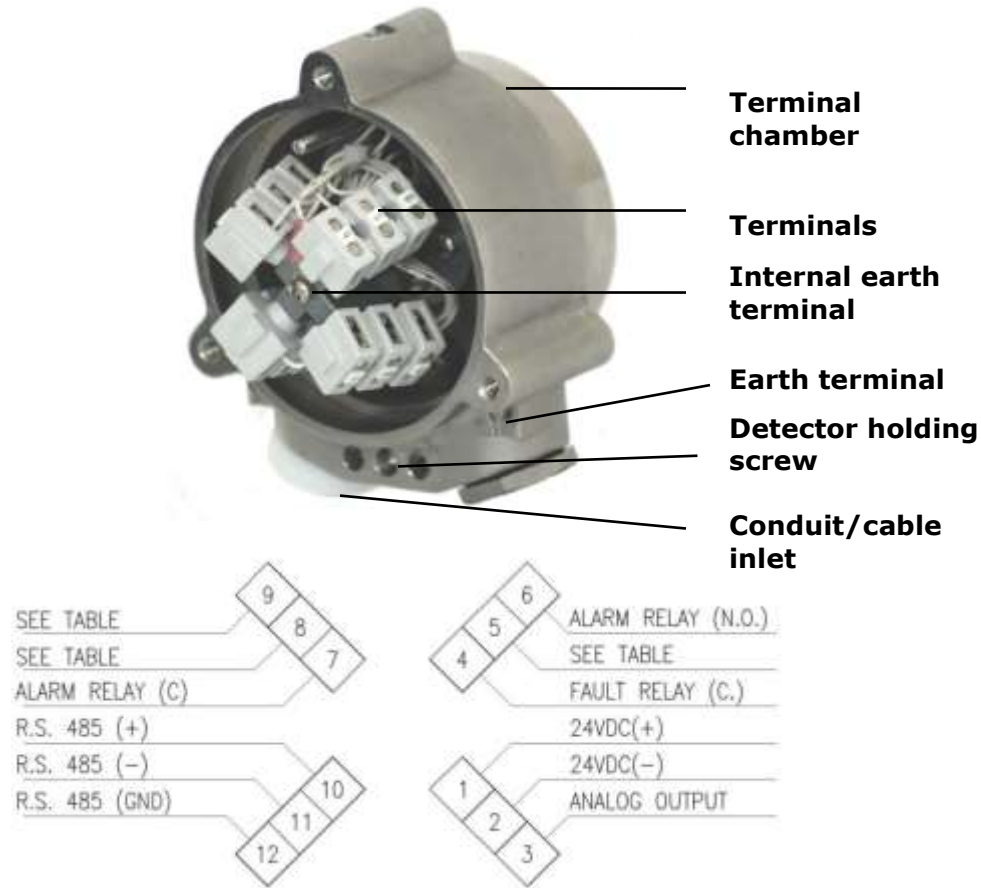

Figure 6: Detector with Cover Removed
This section describes how to connect the electric cabling to the detector (Figure 6).
- 5** Connect the wires to the required terminals on the terminal board according to the wiring diagram (Figure 6) and Table 13.
- 8** Check the wires for secure mechanical connection and press them neatly against the terminal to prevent them from interfering while closing the back cover (Figure 6).